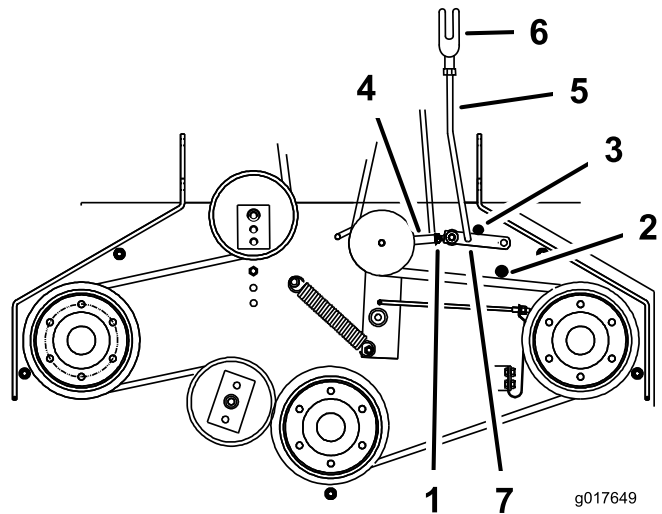

Figure 46
8. To adjust the assist-arm link, remove the hairpin cotter from the assist arm (Figure 46).
11. Install the assist-arm link into the assist arm and secure it with the hairpin cotter (Figure 46).
5. Make sure that the assist arm is against the rear assist-arm stop on the deck (Figure 46).
7. The assist arm should contact the front assist-arm stop on the deck. If it does not contact the stop, adjust the bellcrank so that it is closer to the gusset (Figure 46).